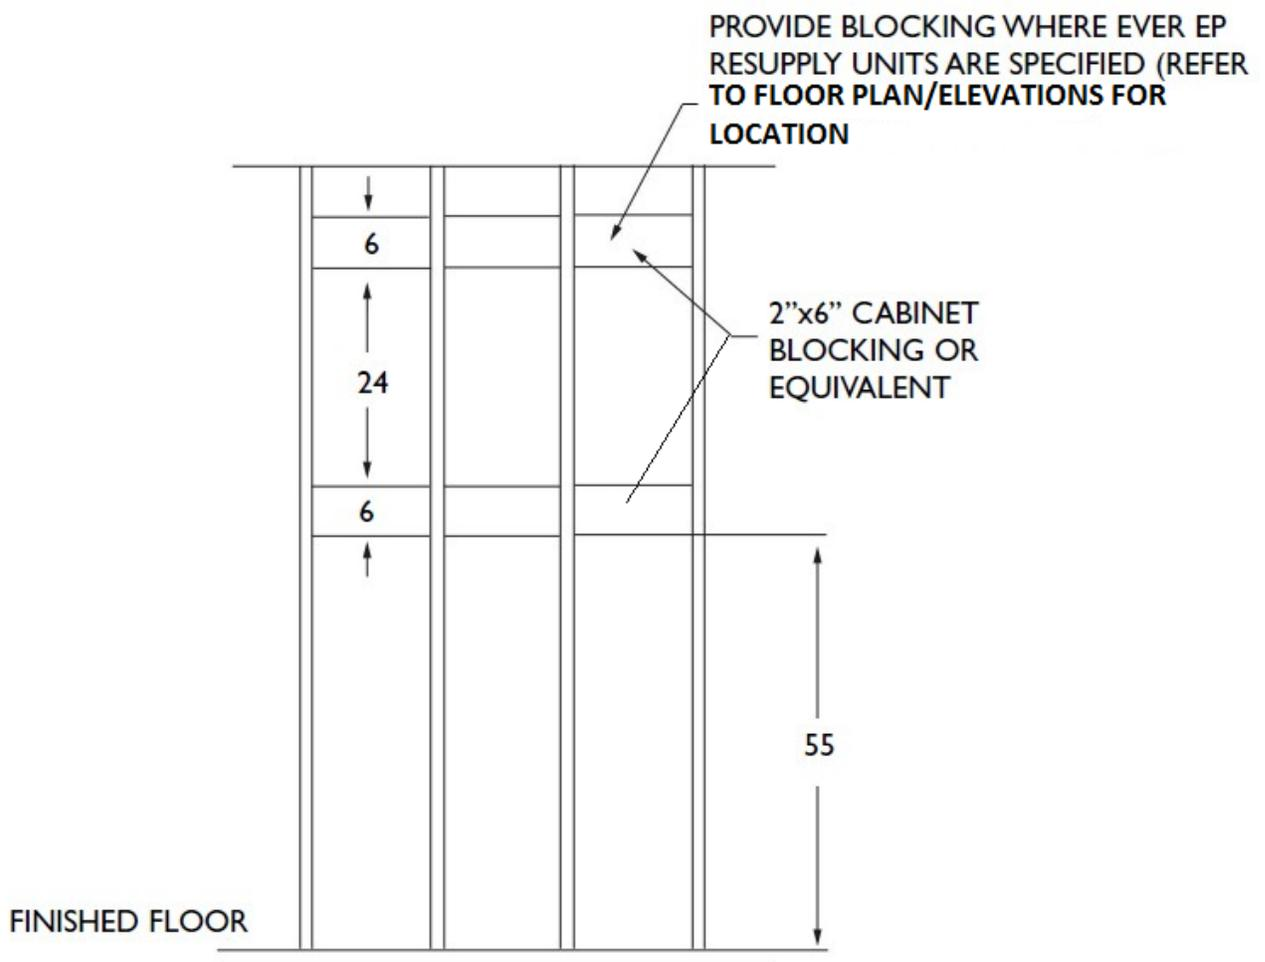

fig. 1
During the framing process, a 2" x 6" or equivalent cabinet blocking should be installed at 55" above the finished floor and again 24" above the first blocking as shown in figure 1. This will provide necessary support of your Computer Storage Cabinet.
1. Position the bottom of the Computer Storage Cabinet 60" above the finished floor, where indicated in below elevation detail (see figure 1).
3. Secure the Computer Storage Cabinet® using the six (6) #10 x 2 1/2" screws through top and bottom overhand. If desired, additional screws may be placed inside the cabinet to provide additional support or to reach blocking.